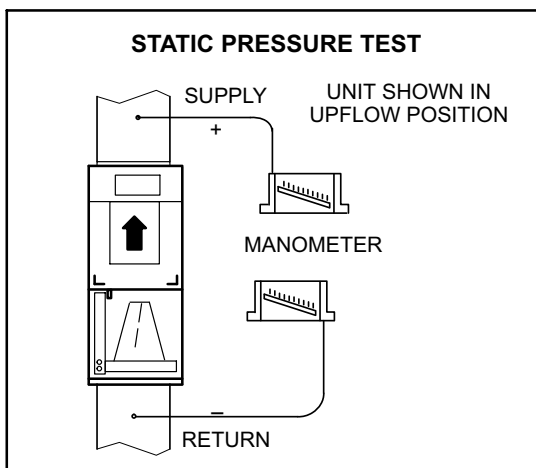

FIGURE 32
1. Measure tap locations as shown in figure 32.